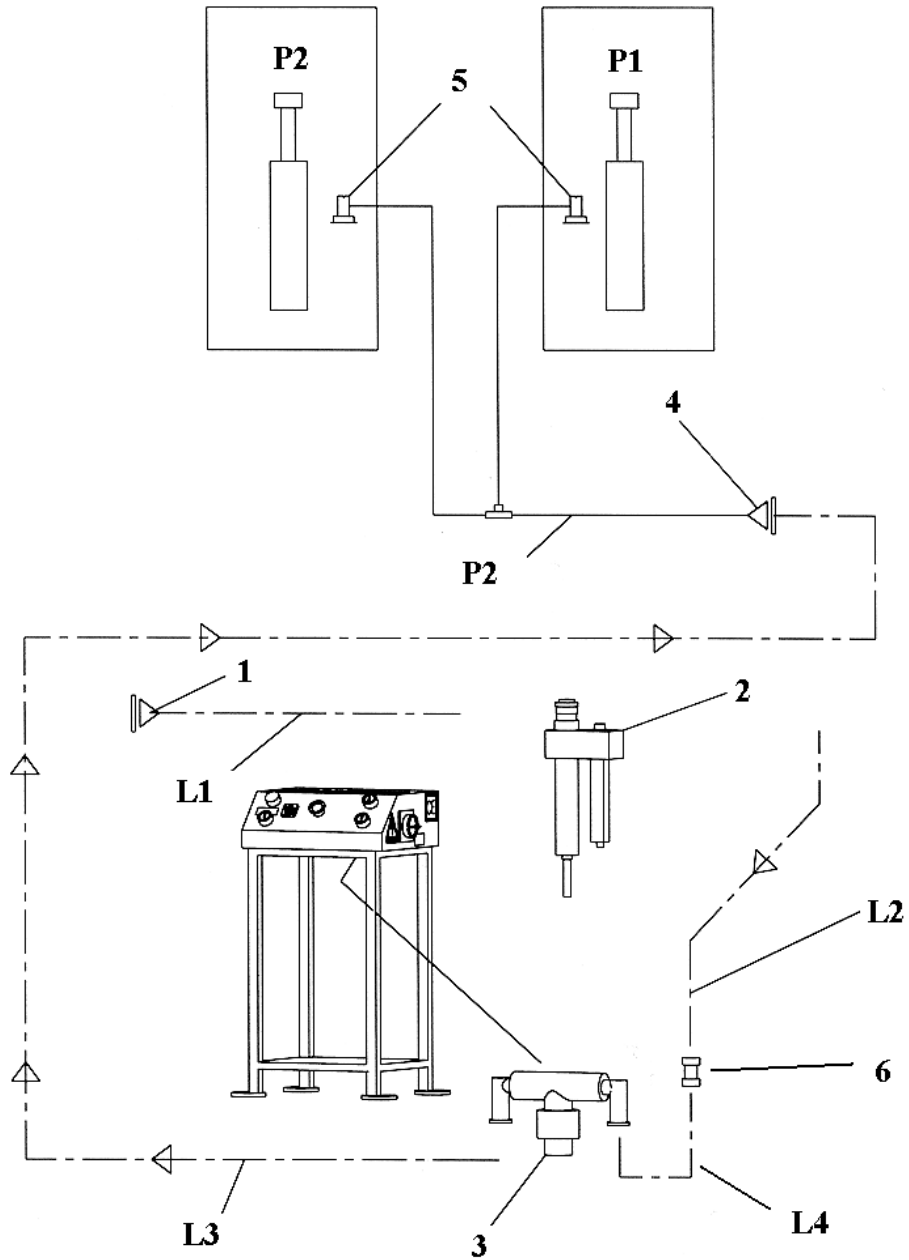

Figure 8 - Pneumatics Installation
2. Connect the pneumatic lines (pre-assembled on the runways) to the control desk according to the colour markings (Figure 8).
NOTE: Use the ¼” Polytube Adapter (Figure 8, Item 6) to join the supply line (L2) to L4 (12” (300mm) piece sliced from L3 - Accessory Box).